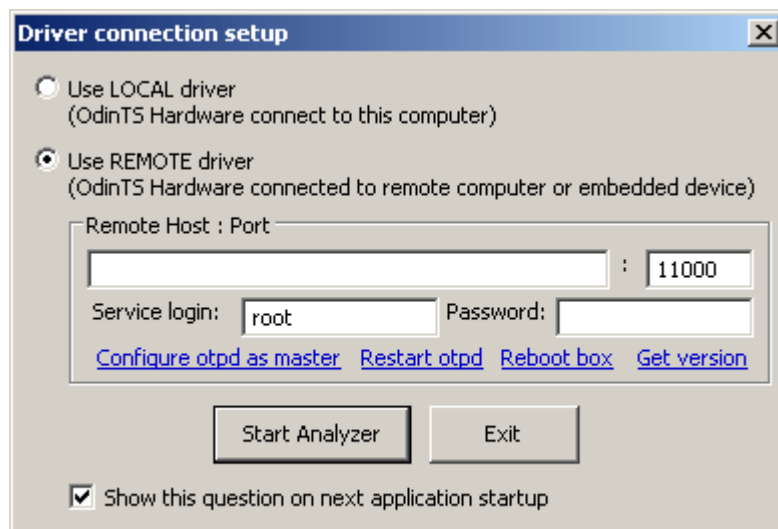

Figure 1
This feature starts up automatically in a case of Local driver absence (the OTX Hardware is not connected to the PC). Or, if run OTX T1E1 Analyzer with “/connection” option you will see the following “Driver connection setup” window (Figure 1):
3. Select “Use REMOTE driver” option in “Driver connection setup” window and input IP-address of the Alvis-CSI. Leave port number “11000” by default (Figure 1).